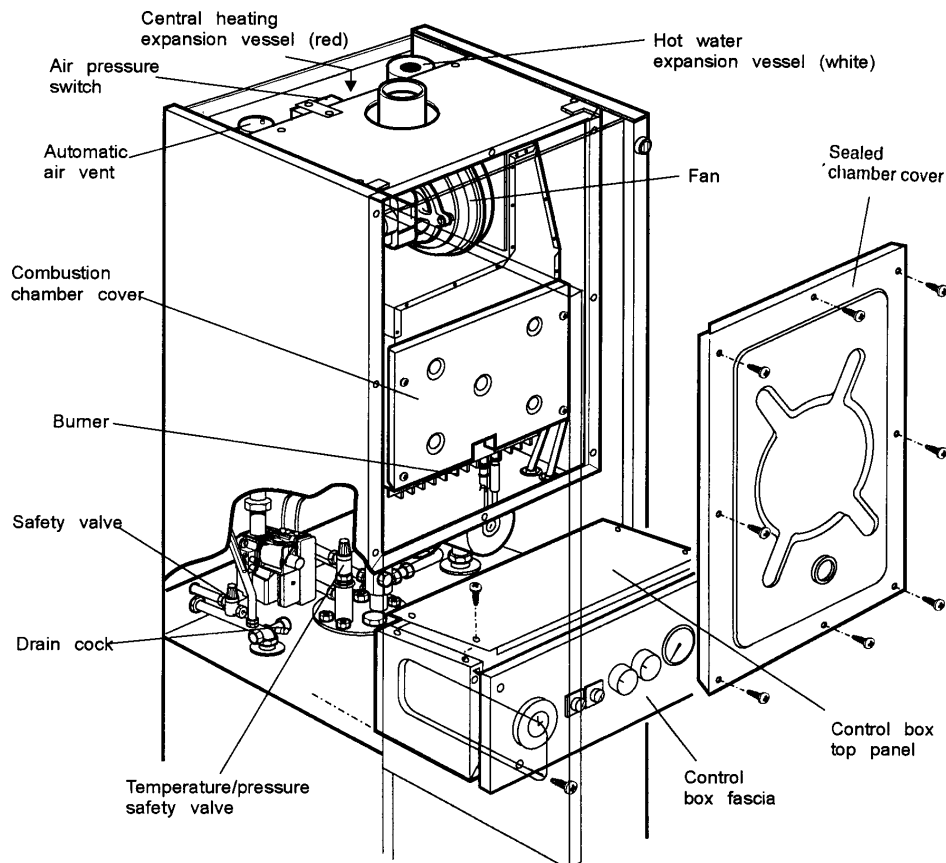

Fig.16
7.2 DISMANTLING PRIOR TO SERVICING (See Fig. 16)
Refer to Figs. 16 and 18 for the position of the components.